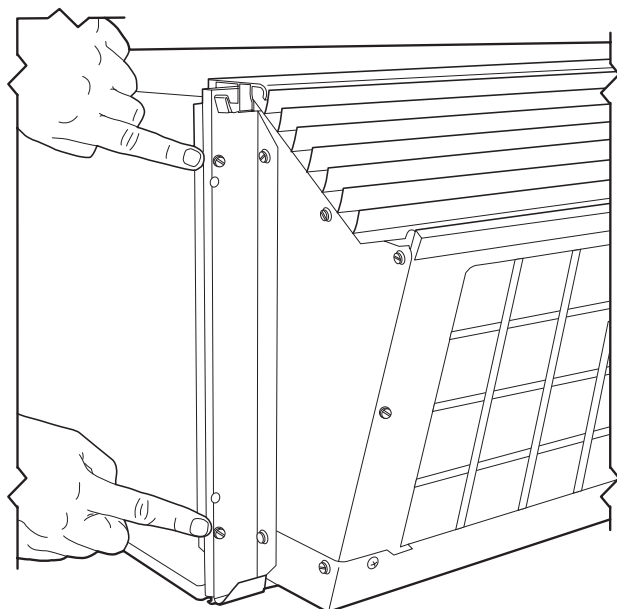

FIGURE 6 — UNIT TO WALL SLEEVE MOUNTING SCREWS
1. Remove the four, 1 $\frac{3}{4}$ -in. mounting screws that secure the unit to the wall sleeve. There are 2 screws on each side (Figure 6).
2. Remove the four 1 $\frac{3}{4}$ -in. screws that secure the chassis to the wall sleeve (see Figure 6). There are 2 screws on each side.